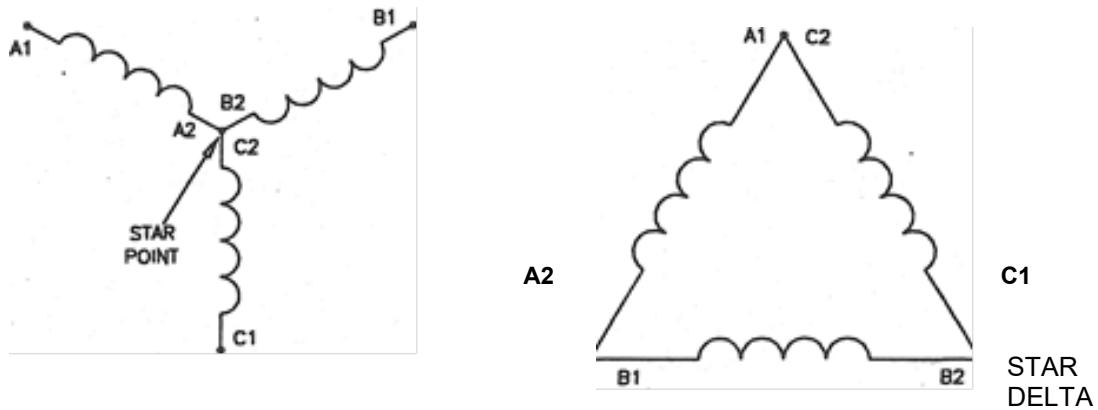

Figure 2 – The basic star and delta motor connection
6. The basic star and delta connections are shown in Figure 2.